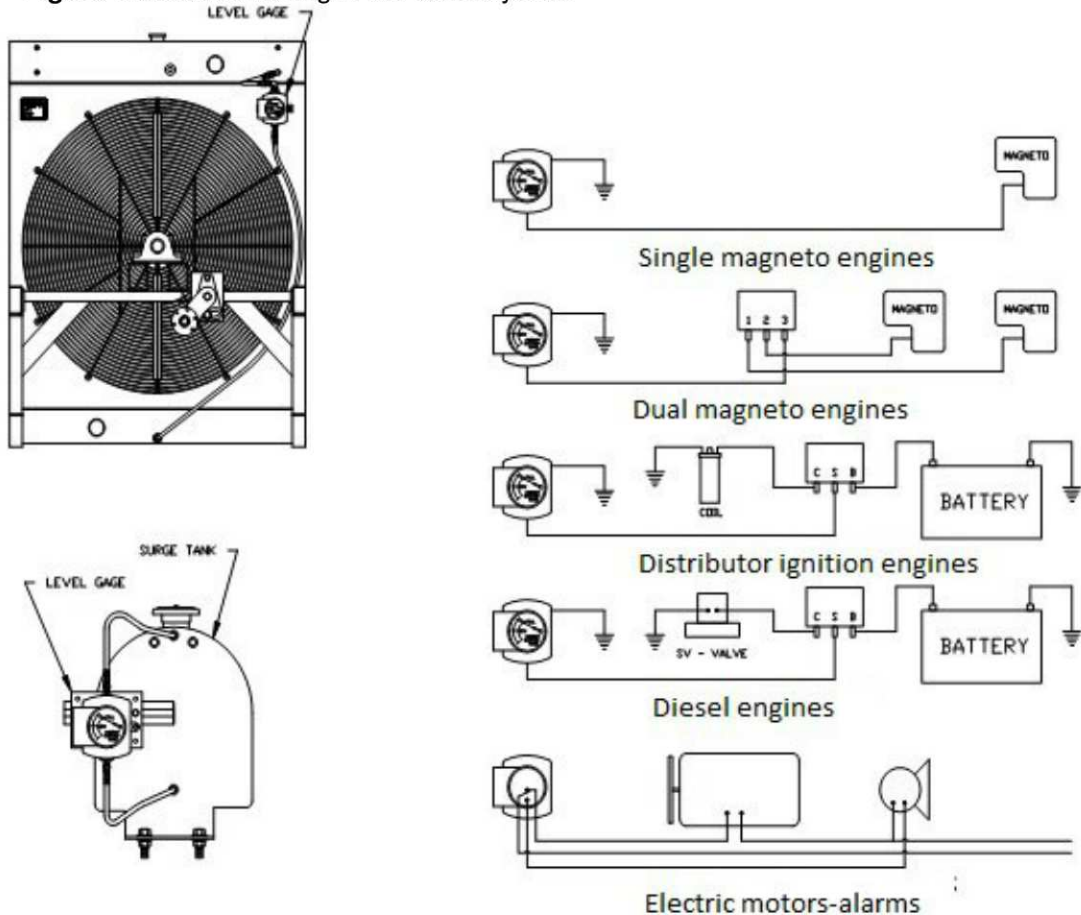

Figure 6: Liquid Level Alarm installation
- 5.5.3 **Figure 6** shows low level alarm installation in a vertical radiator. The top connection is plumbed to the lowest acceptable coolant level in the radiator top tank. The lower connection is plumbed to the center of the radiator bottom tank (unless otherwise specified.)
- 5.5.4 **Figure 6** shows the wiring of the alarm system